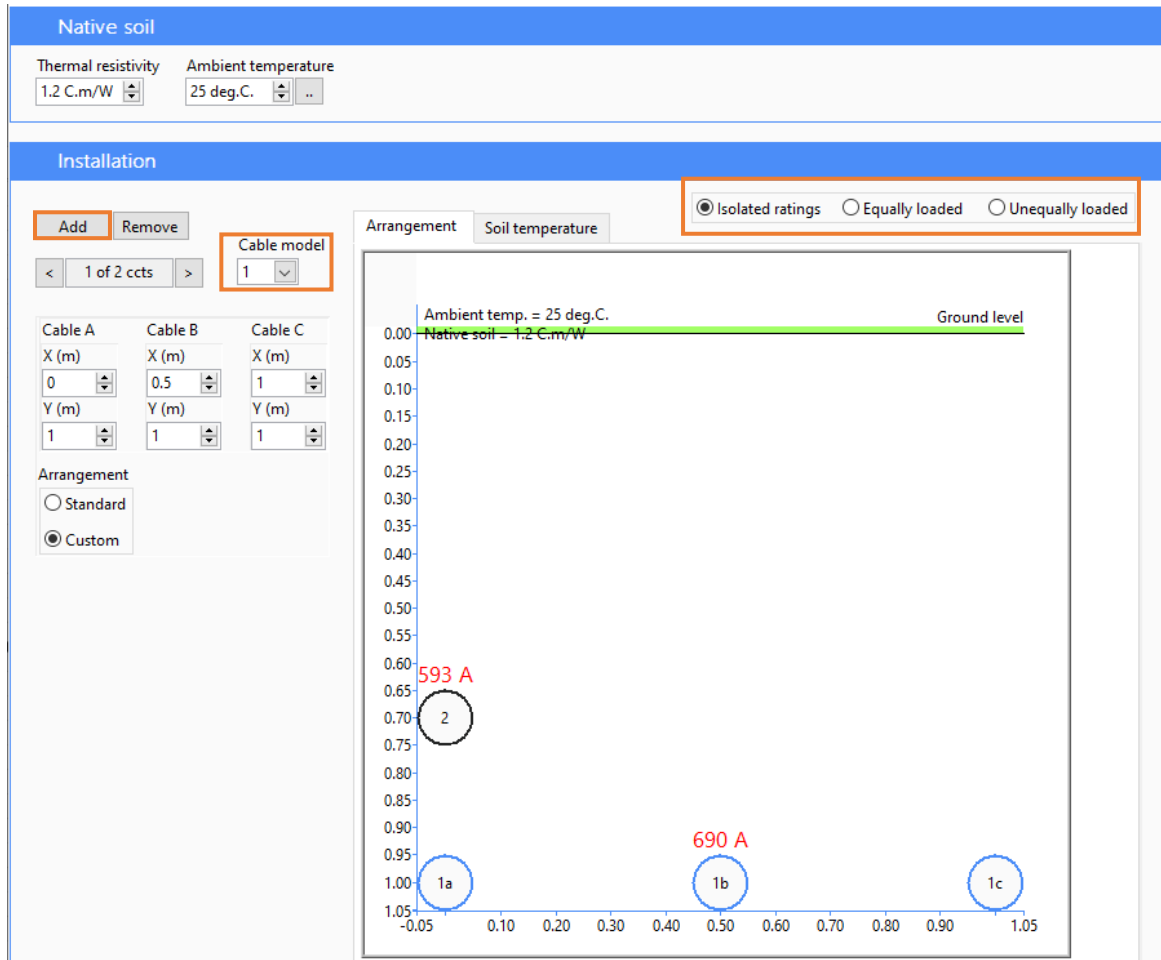

Figure 6 – Cable installation with trefoil and three core cables
- ② After configuring the cables, select the **Buried** installation. This will bring up a new box as shown by Figure 6 displaying the cables underground along an x and y axis. To add multiple cables, click the **Add** button and select the **Cable model** number that you wish to add. Adjust the depth measurements as per the example instructions.